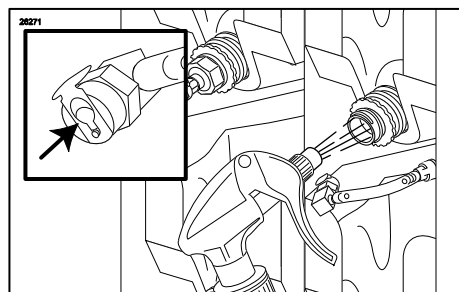

Figure 65
14. Using a spray bottle of approved sanitizer solution, spray the syrup bag fitment and the Syrup Bag Connector. Allow these parts to sanitize for at least 1 minute. (See Figure 65.)